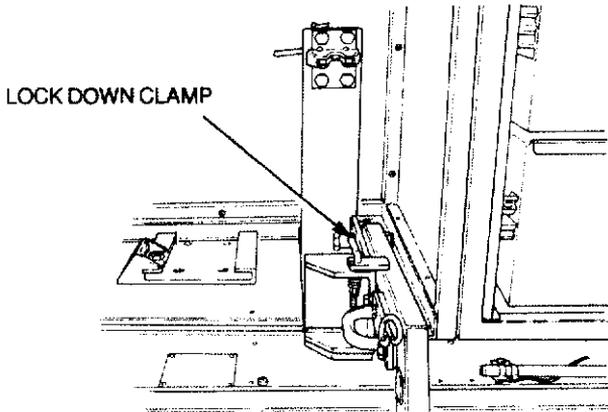

Figure 4-14 Bench lock down clamp
- c. Apply the left hand and right hand bench lock down clamps (see Fig. 4-14).
- b. Raise the bench and engage the locking bar (see Fig. 4-14) in the release catch and hook up the safety chain to the bench. Ensure the locking mechanism is in the detent position and the safety chain is applied before releasing the bench.